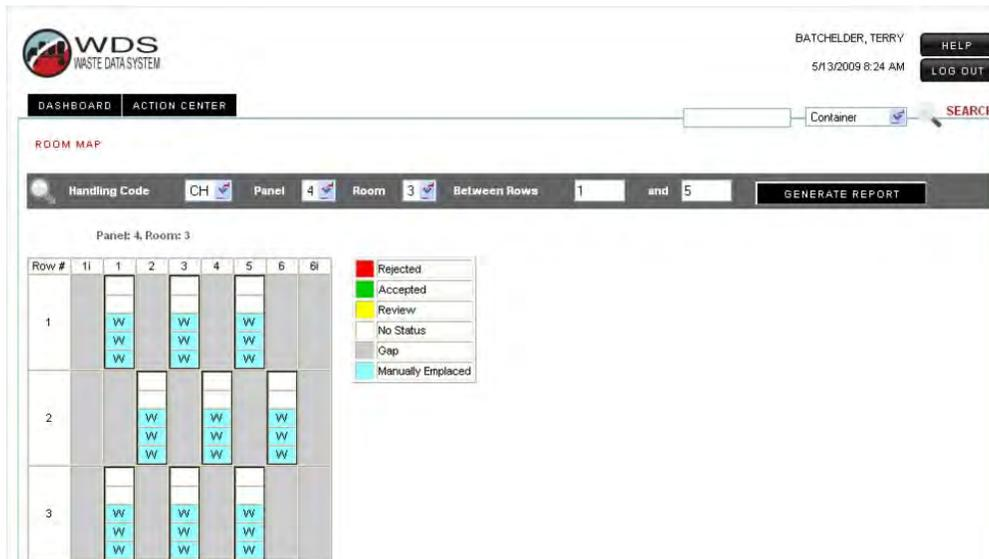

Figure 6 - 11 – Room Map
- 6.7.5 Select **Generate Report** as shown in Figure 6 - 11.